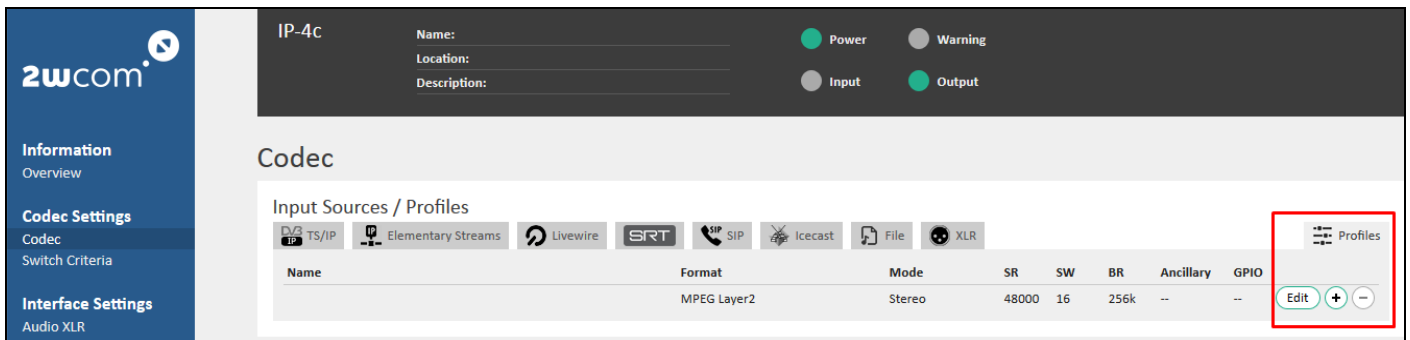

Figure 22: Codec Profile Presets
You can preset all codec profiles in the web interface of the IP-4c under **Codec Settings**→**Codec** in the “Input Sources/Profiles” block (see Figure 22).
3. Assign a preconfigured “Codec Profile” in the dropdown menu or drag and drop the “Profile” from the “Profiles” tab (see Figure 22) to each Encoder 1-8.